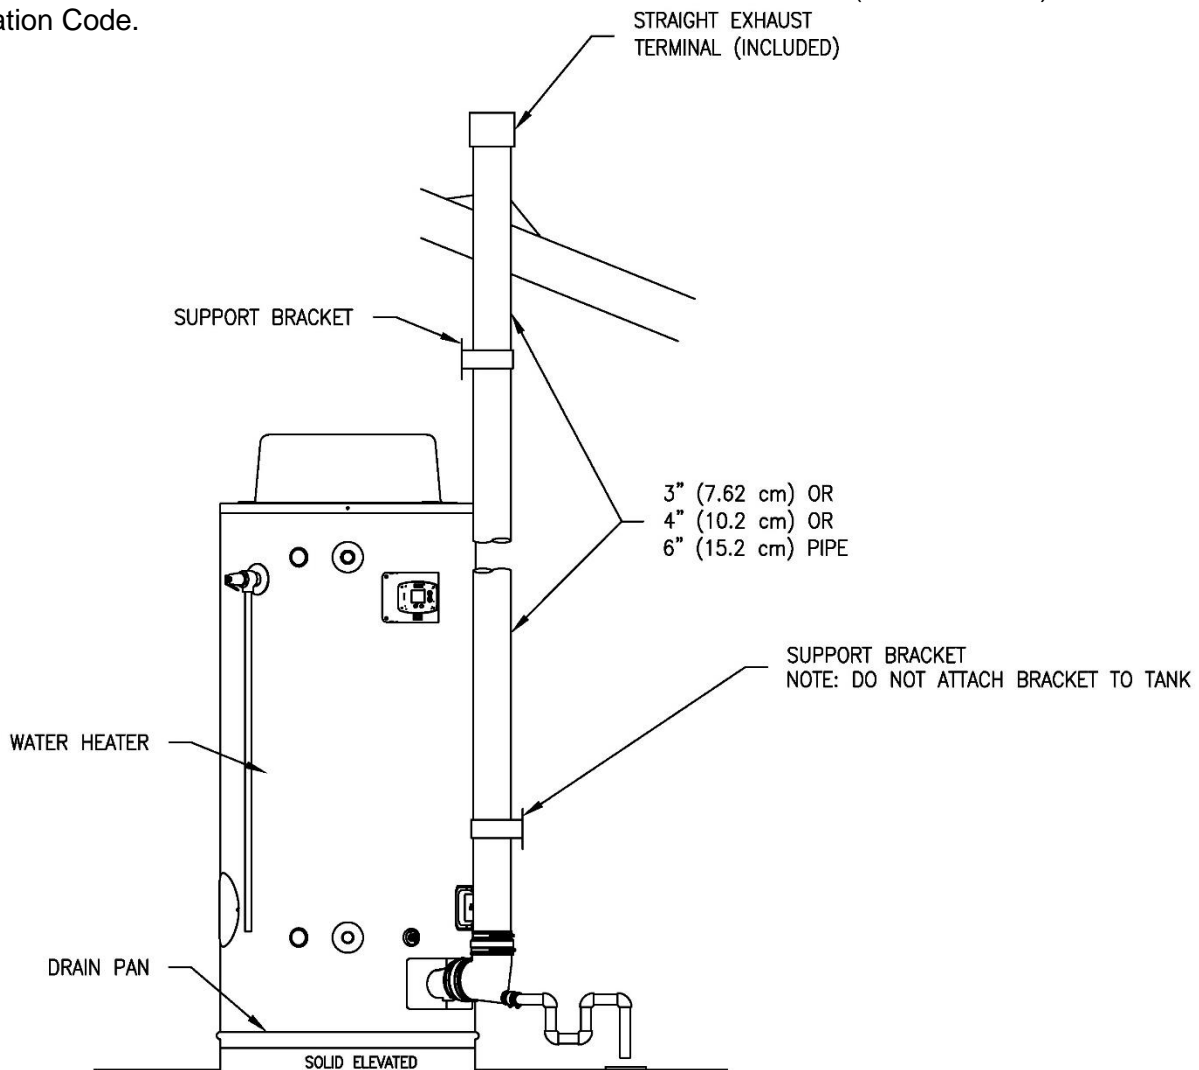

Figure 17 – Typical Vertical Power Vent System Installation
2. Install the exhaust vent and air intake plastic pipes as shown in Figure 17. Make sure that the installation meets the local codes and/or The National Fuel Gas Code ANSI Z223.1 (Latest Edition) or CGA/CAN B149 Installation Code.